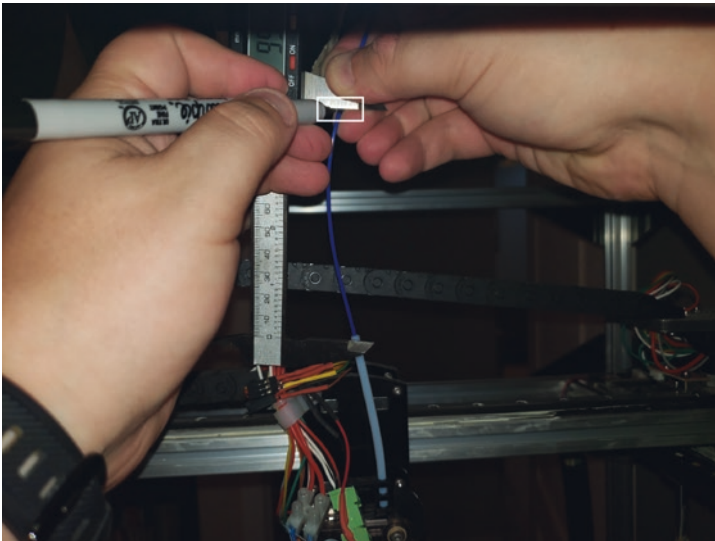

Figure 4-34. Put a mark at 100mm
3. Mark a distance of 100mm on the filament going into the extruder. See Figure 4-34.